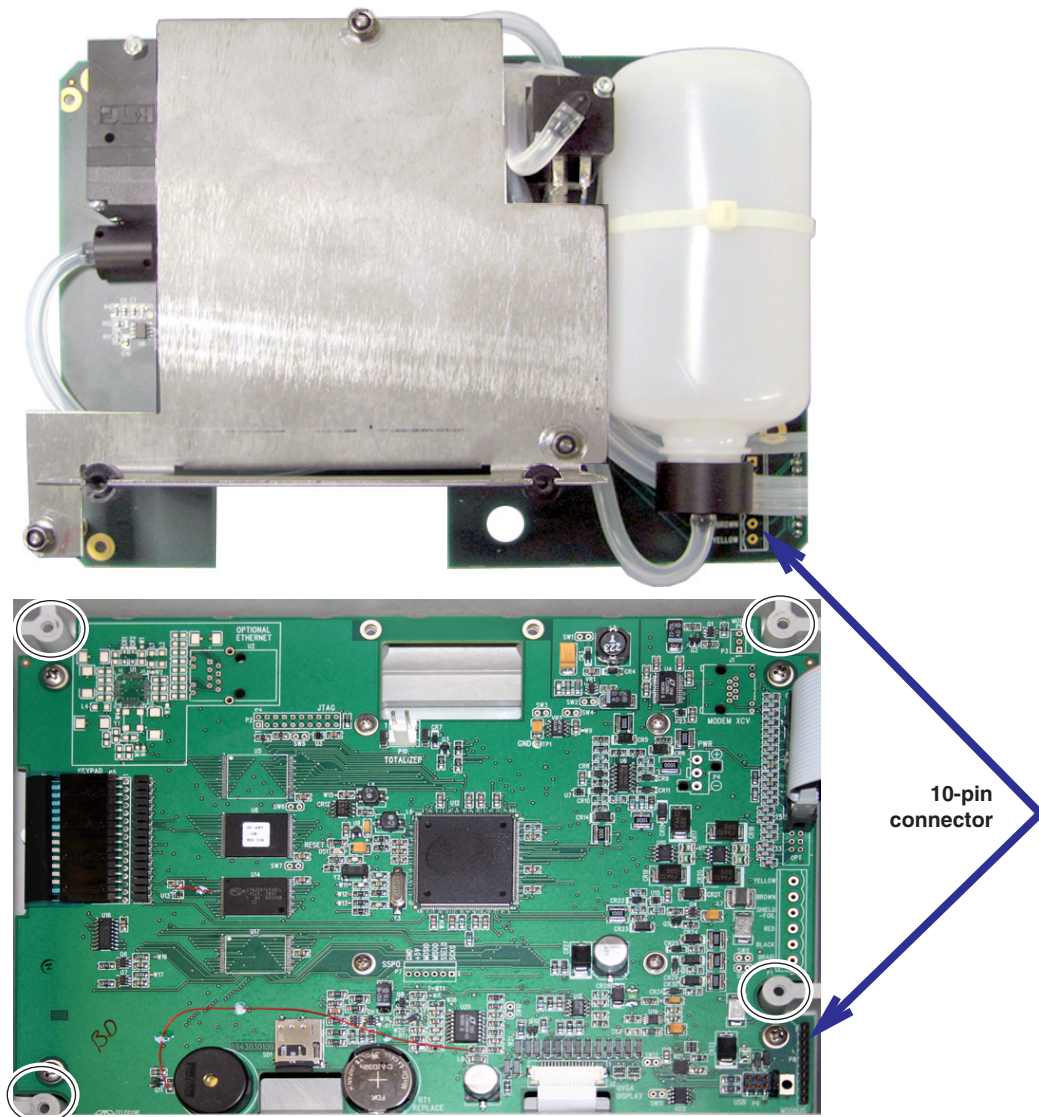

Figure 6-9 330 Bubbler assembly installation
6.6.9 Installation Procedure Referring to Figures 6-9, and 6-11, perform the following steps.